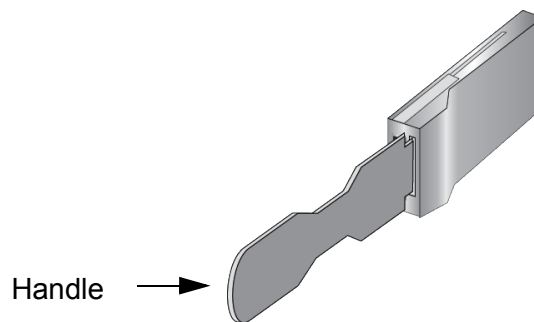

Figure 127. Handle on 100Gbps Transceivers for XEM2-1CQ Line Cards
- ❑ 100Gbps transceivers for XEM2-1CQ Line Cards have handles. Use the handles when installing or removing transceivers. An example is shown in Figure 127.